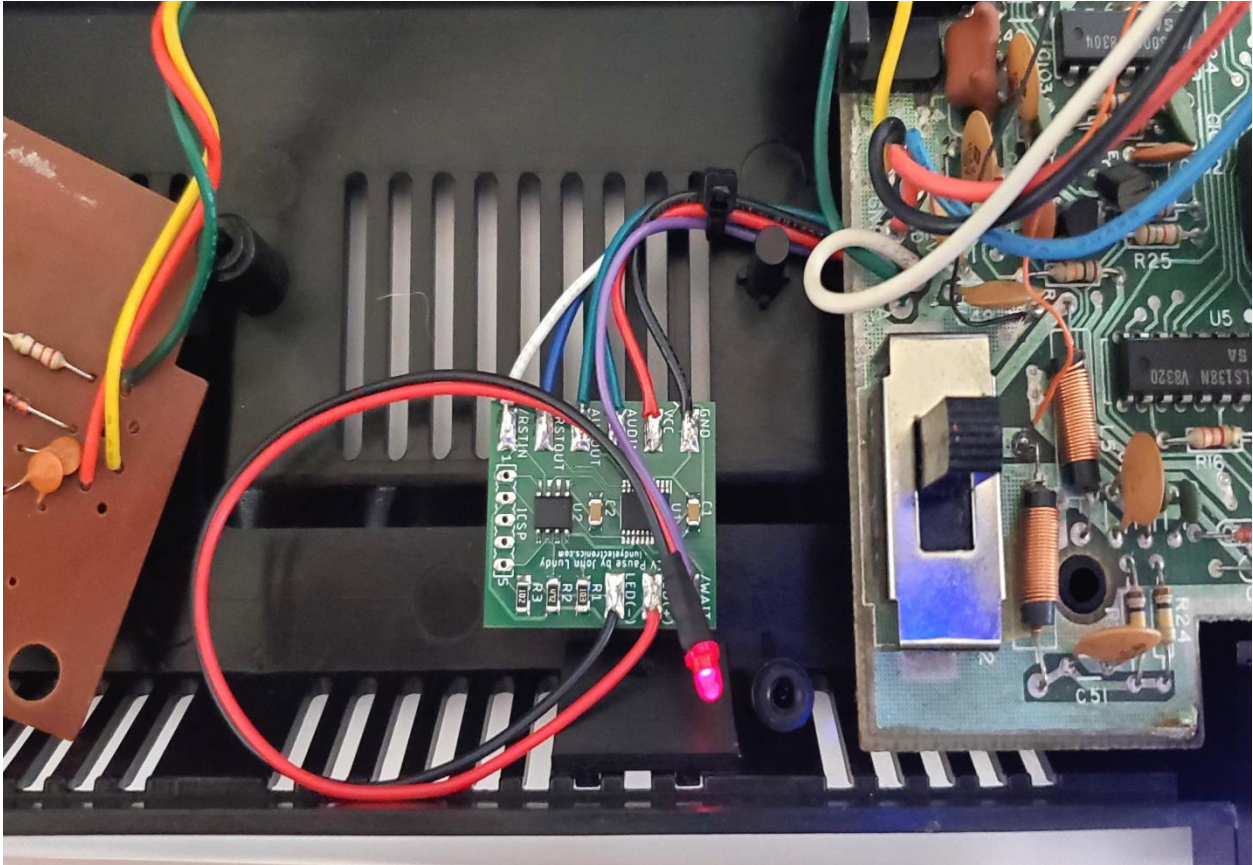

Figure 9: Proper orientation of Pause Mod placement
Step 5: Install ColecoVision PCB without RF shields into lower case housing and safely rest the RF modulator PCB off to the side to test unit for proper operation. See **Figure 9** for proper orientation of Pause Mod placement.